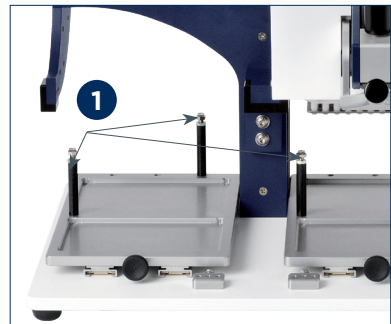

Figure 9
The descent of the pipetting head and the position of the tips can be adjusted by using three height adjusters, as shown in figure 9. ①